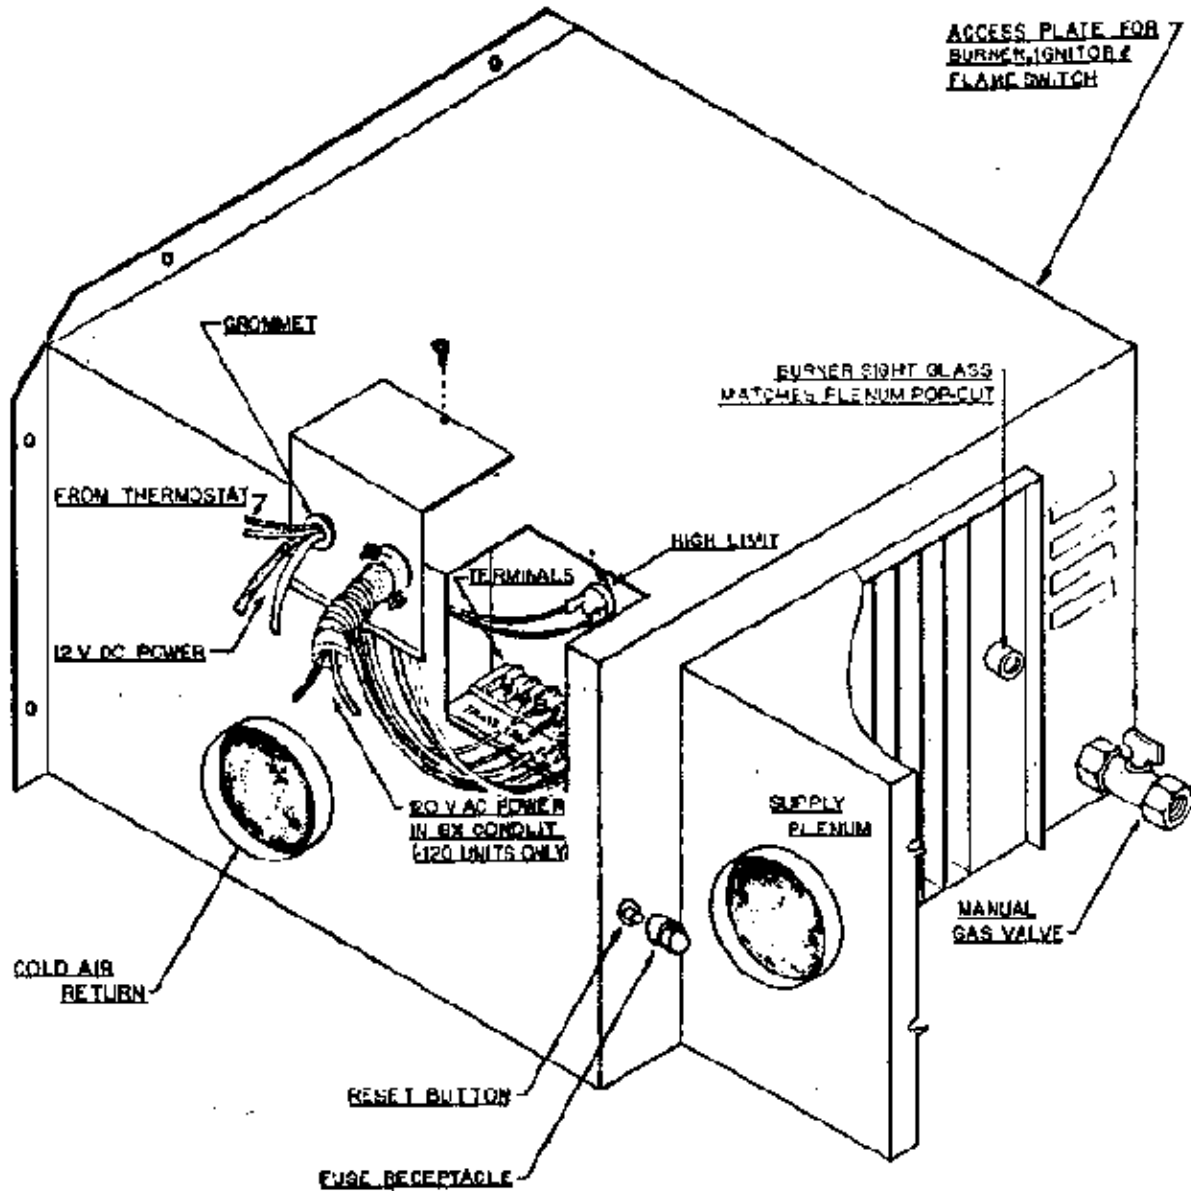

Figure 1. Sci-Aire Furnace viewed from inside vehicle.
4. Press manual reset button on furnace (see Figure 1).